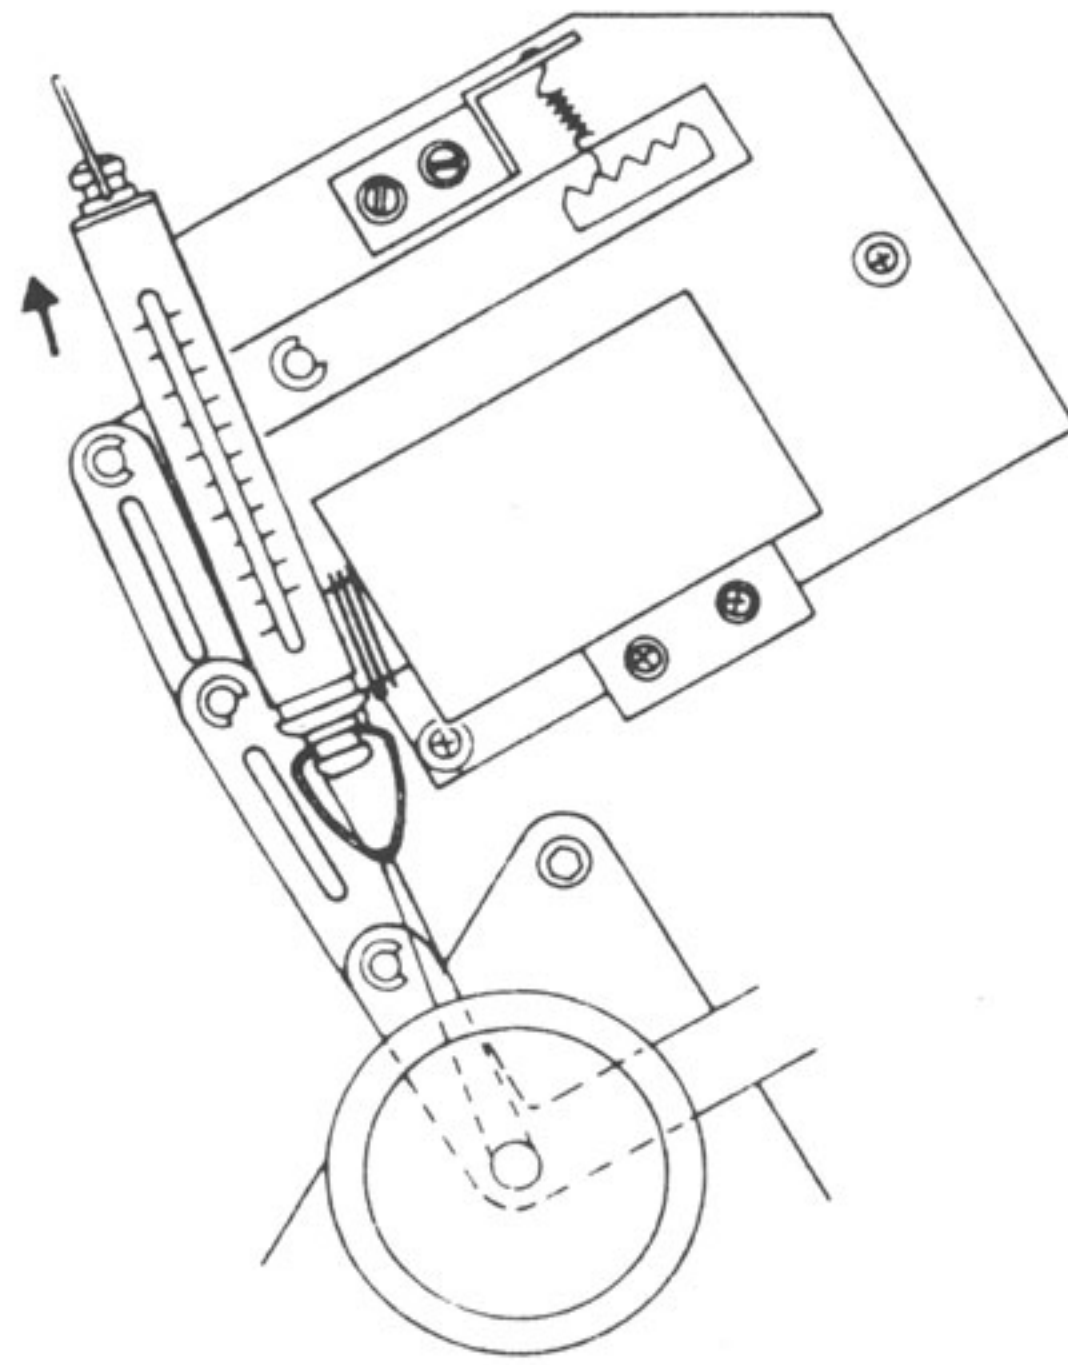

Figure 6-13. Tension Scale Placement
- STEP 3.** Attach a piece of nylon string to the 5kg tension scale and place the string around the pinch roller shaft as shown in Figure 6-13.